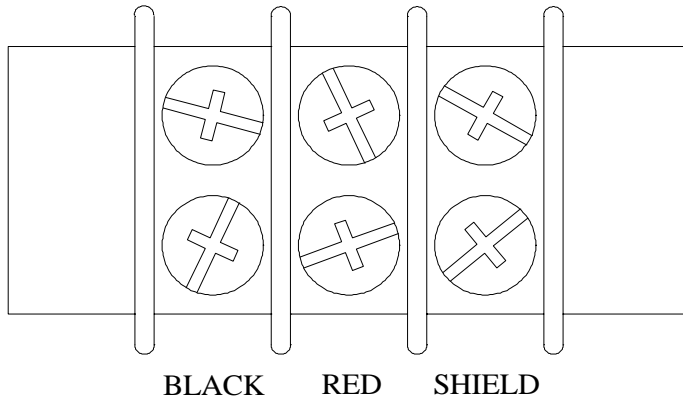

Figure 14 T1 WIRING DIAGRAM
3. Connect the control cable to terminal strip T1 (located to the left of the test jack S12) according to the diagram in figure 14.